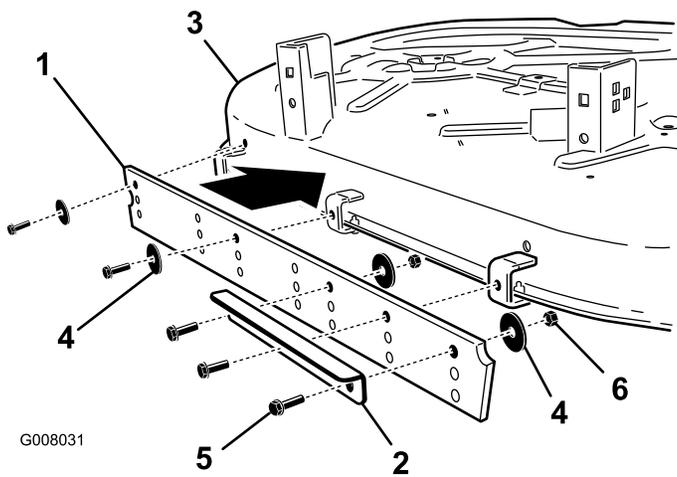

Figure 4
- Install the stabilizer plate to the wiper at the point shown in Figure 4 using 2 bolts (1/4 x 3/4 inch), two washers, and two lock nuts (1/4 inch).